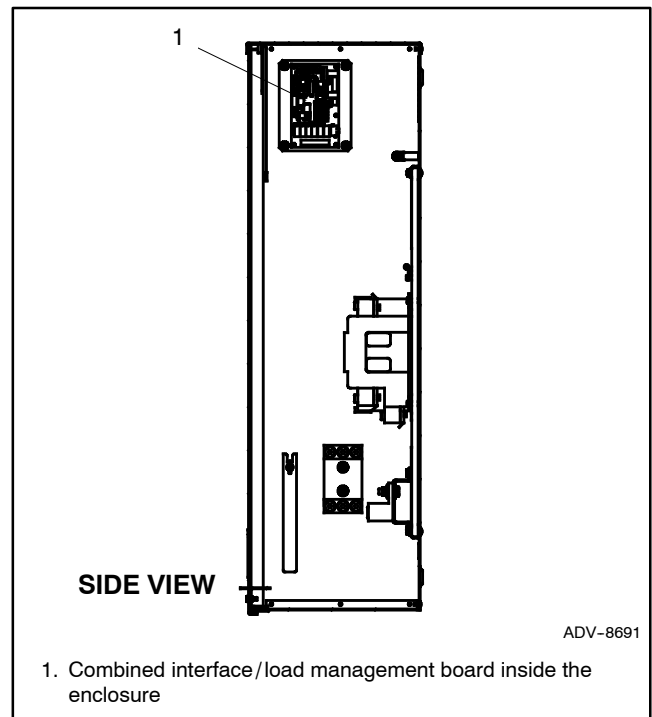
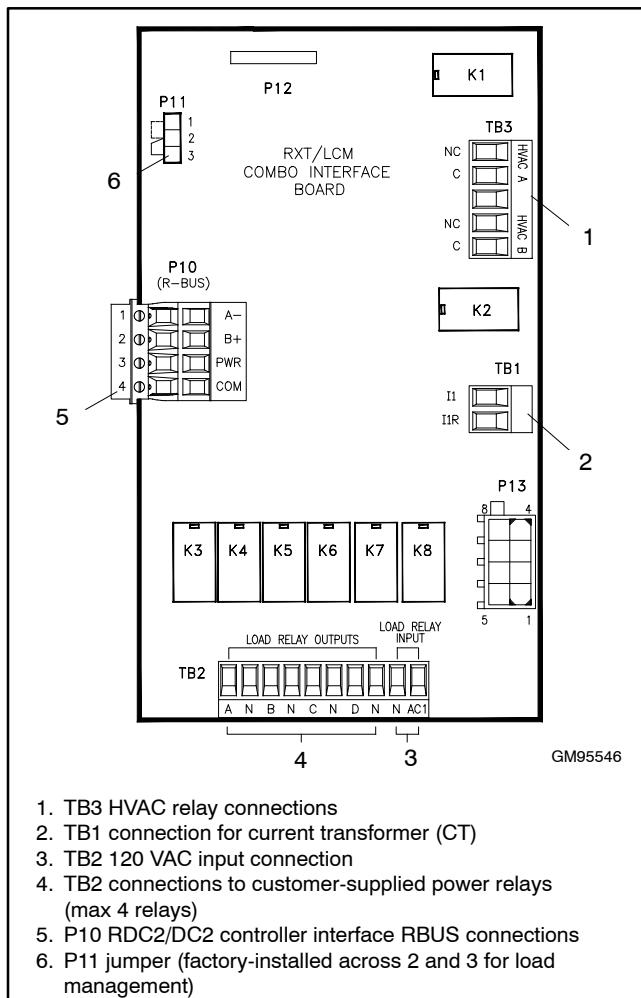

Figure 2-22 Typical Interface Board Location
Figure 2-24 Combined Interface/Load Management Board Customer Connections
7. RBUS connections: Connect the controller interface connection to A, B, PWR, and COM on terminal block P10 on the interface/load management board. See Figure 2-22 and Figure 2-24. The RBUS connections to the generator set controller are the same for the standard interface board and the combined board. See Section 2.6 for interface connection instructions.
8. Connect the CT leads to connector TB1 on the interface/load management circuit board. Extend the leads, if necessary, using customer-supplied wiring. See Figure 2-24 and/or the wiring diagram in Section 6 for the connector location.
11. Verify that the jumper is installed across P11-2 and P11-3 on the combined interface board. See Figure 2-24.
12. Connect HVAC loads to TB3. See Figure 2-24. Note the priorities of HVAC A and HVAC B relative